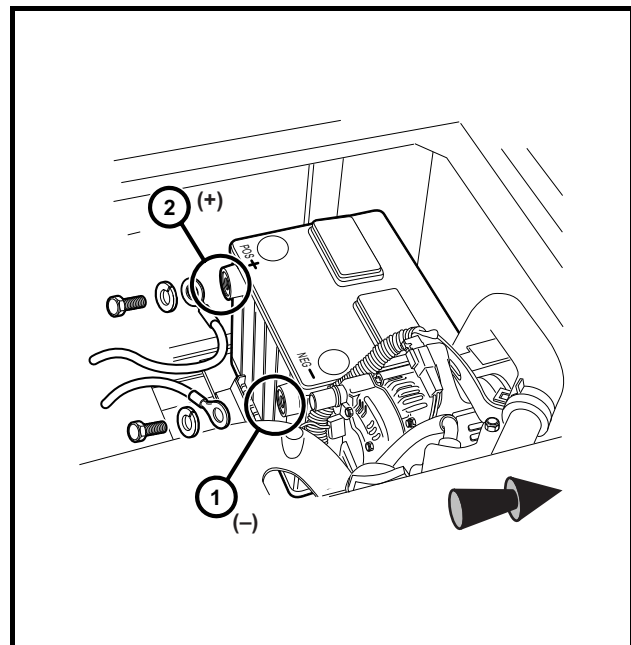

Figure 1-2 Disconnect Battery
2. Disconnect the battery cables, negative (–) cable first, as shown (**Figure 1-2, Page 1-3**).